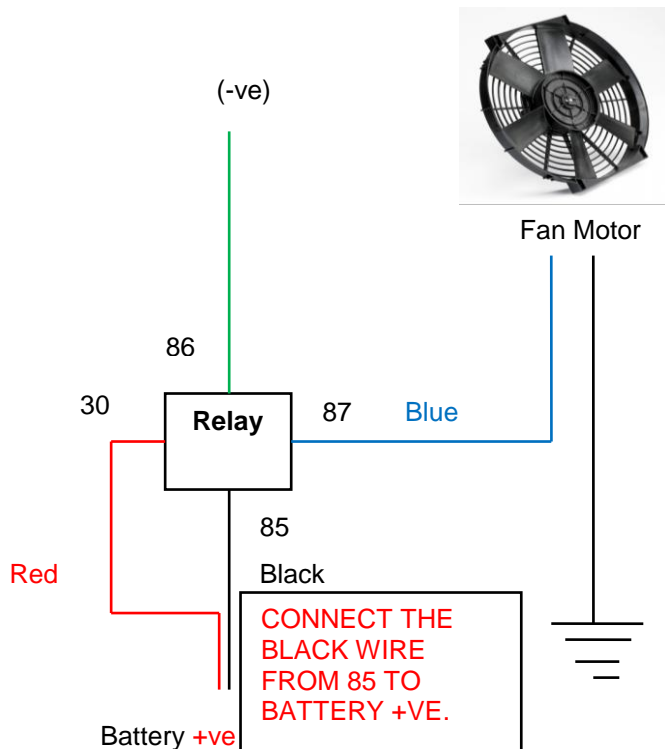

Figure 5: Fan to Controller wiring diagram
FLASHING = EWP operating in ‘pulsing’ mode – Refer Figure 5, areas (A) & (B).
ON = Electric Water Pump (EWP®) running between 6V – Battery Voltage: Refer Figure 5, area (C)
Please refer to the figure 5 for fan to controller wiring details. Please call Davies, Craig at (03)93691234 if you required another remote LED to complete the wiring.